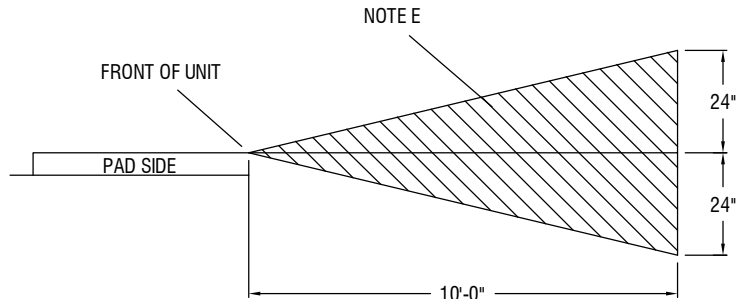

FIGURE 2 - SLOPE CRITERIA
- E. AN ELEVATION CHANGE WITHIN THE 10-FOOT FRONTAL OPERATING AREA SHALL NOT EXCEED 24-INCHES IN ANY DIRECTION. GRADE PROFILE CHANGES MUST REMAIN WITHIN THE SHADED AREA SHOWN. SEE FIGURE 2.
- H. A MINIMUM 60-INCH WIDE, OPEN AND CONTINUOUSLY UNOBSTRUCTED ACCESS AND EXIT PATH SHALL BE PROVIDED TO AND FROM ALL OPERATING AREAS OF ANY UNIT(S) TO FACILITATE EASE OF ENTRY AND DEPARTURE.